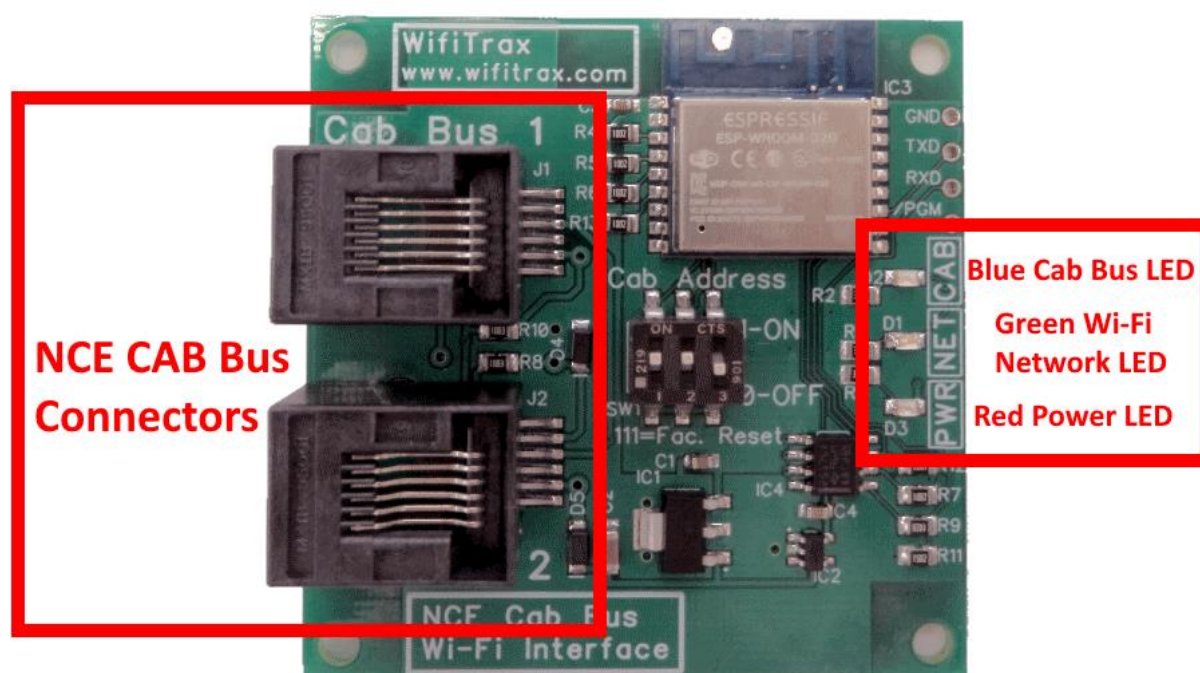

Figure 1 Connections and switches on the WFD-30 Some units are white in color. Early serial numbers do not have LEDs.
- (1) Figure 1 shows the WFD-30 module with its connectors labelled. There are two NCE CAB Bus connections on the left of the module. Either of these can be connected to one of the CAB Bus connections on your NCE Command Station. You should always use NON-REVERSED cables with RJ-12 6P4C Modular Plugs on each end – the coiled cable from NCE is, of course ideal. **Warning: Some**